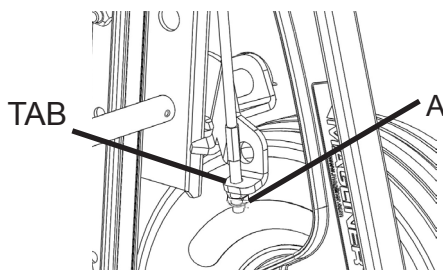
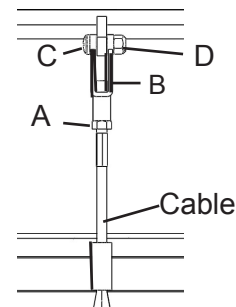

Figure 7
Figure 8
1. Insert each of the lower ends of the Y-cable in the holes located on the extending lever tabs (TAB) of each brake paddle as illustrated in Figure 7.
2. Thread one 1/4"-28 jam nut (A) onto both ends of the cable to approximately 1-1/2" from the end using your fingers. (Note: It may be necessary to use a 7/16" wrench and hold the cable with a pair of pliers above the threaded section to prevent the cable from spinning while performing this step.)
3. Thread a second 1/4"-28 jam nut (A) onto the cable until it is snug with first jam nut and tighten them together using the two 7/16" wrenches to 50-60 in.-lbs. of torque.
4. At the top of the cable, thread one 1/4"-28 jam nut (A) all the way on the upper end of the Y-cable. Thread the yoke end (B) onto the cable as illustrated in Figure 8. You will adjust the final position of the yoke and jam nut on the next page.
1. Loosen the jam nut (A) below the yoke end (B) at the top of the Y-cable using a 7/16" wrench (see Figure 8).